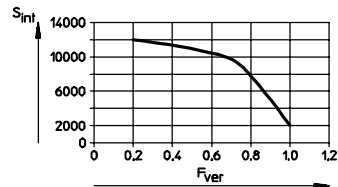

Fig. 35
1. Calculate the loading of guide F_{ver} with the aid of the formula for combined loadings (see “Technical specifications”) and read the lubricating interval S_{int} from Fig. 35.